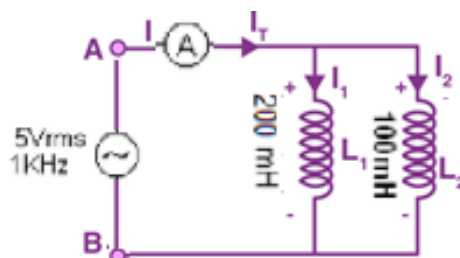

Figure 12: Inductor in parallels in exp
- We repeat the same manipulation but with a parallel assembly of inductors L_1 and L_2 as shown in Fig.12,